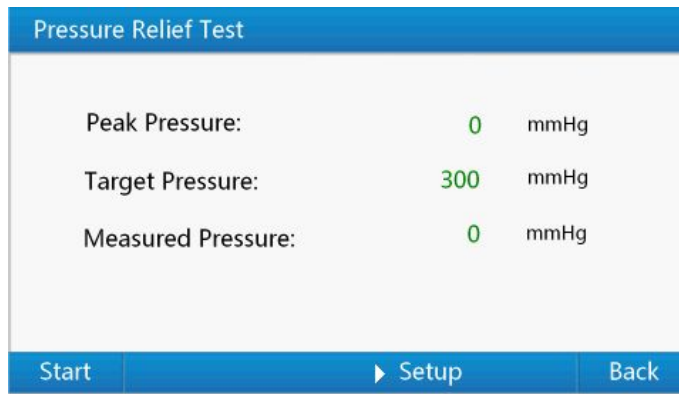

Figure 12 Pressure relief test interface
- 1) Use up or down key in **"Pressure Test Menu"** to **"Pressure Relief"**, then press **"Enter Key "**to **"Pressure Relief Test" interface** shown as Figure 12, As a shortcut, you can use number key **"2"** to this interface quickly, In this interface, Pressing **"Return Key"** can get back to **"Pressure Test Menu"**.